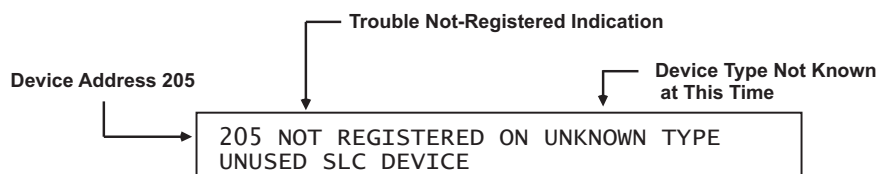

Figure 3-48. Typical Device Not Registered Message
3. All of the SmartOne/DS Series devices connected to the SLC will report a not-registered trouble message similar to the message shown in Figure 3-48: